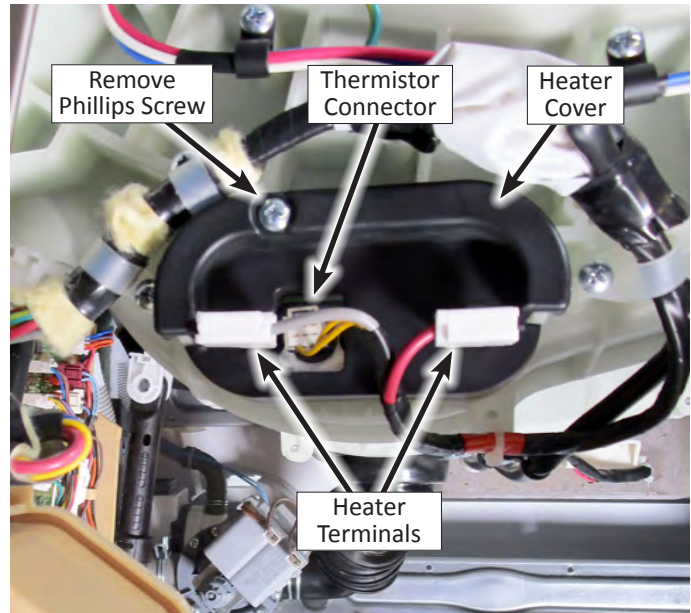

Figure 2
5. Remove all connectors from the heater and temperature thermistor (see Figure 2).
6. Remove the Phillips screw securing the heater cover to the tub (see Figure 2). Remove the heater cover.